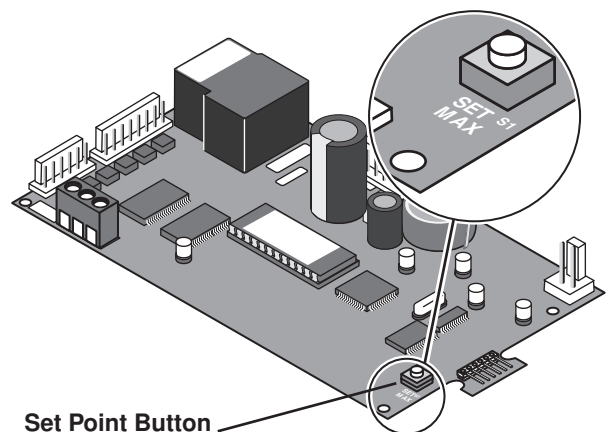

Figure 9.
3. Push the **Max. Temp. Set Point** button on the back of the control board (see Figure 9).